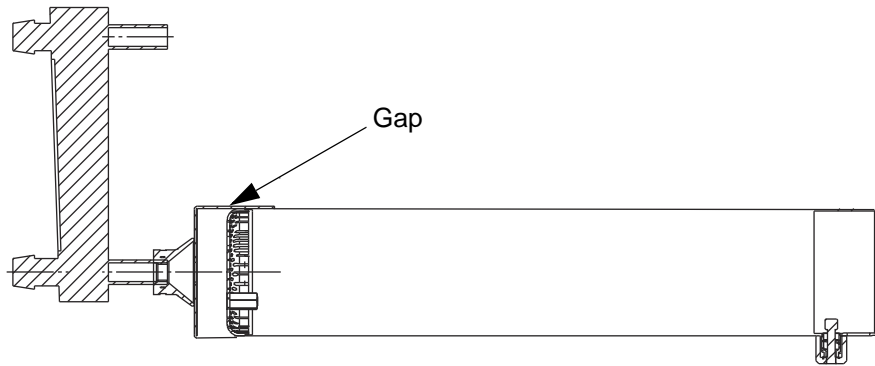

Figure 4-35: Printhead Cover with Perforated End Cap
- c. For the perforated printhead cover, make sure that there is a gap between the cap and the cover (Figure 4-35 on page 4-27) to assure that the airflow through the cover is not restricted.